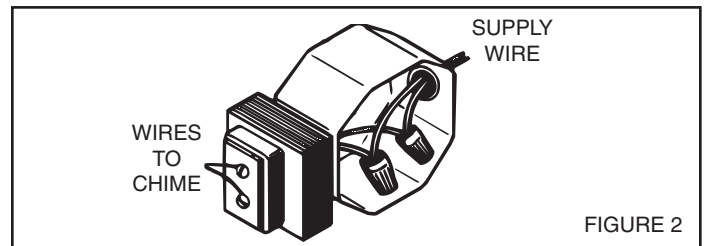

FIGURE 2
2. Connect house power leads to transformer leads: black to black, white to white, ground to green. (Figure 2)